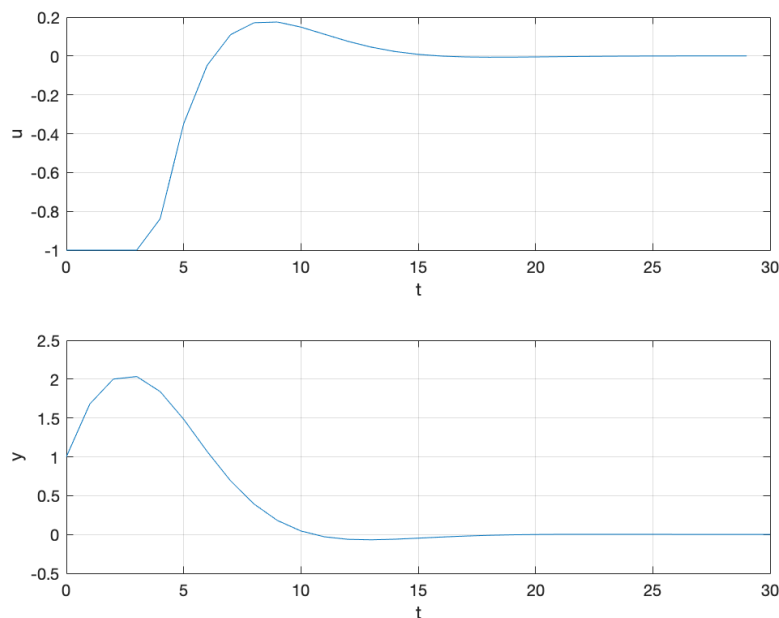

Figure 7:  $u_t$  and  $y_t$  for MPC with horizon of 30.
- b) The resulting plot is found in Figure 7. As we can see this solution is very similar to our open-loop prediction over the whole horizon in Task f.